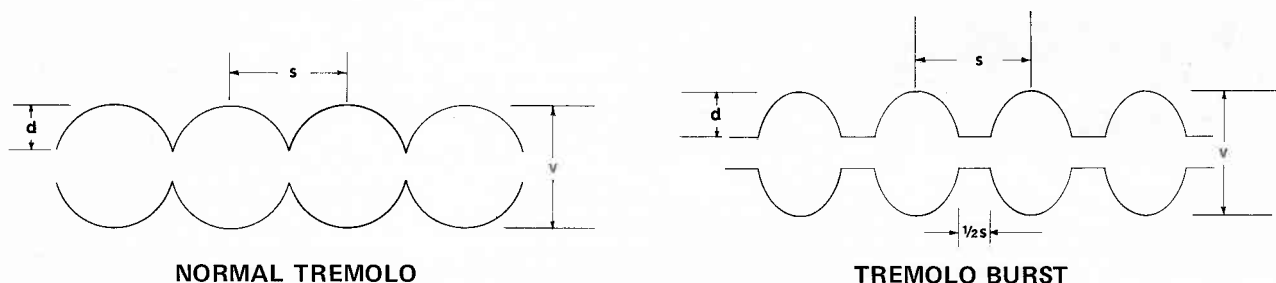

Figure 1. Audio Signal Showing Normal Tremolo and Tremolo Burst Effects.
The tremolo effect can be operated both as normal tremolo and as TREMOLO BURST. In normal tremolo operation, the volume level increases and decreases smoothly at speeds ranging from about 3 to 12 cycles per second as shown in figure 1. TREMOLO BURST, on the other hand, increases and decreases the volume level sharply. The volume level is held down for an extended period in TREMOLO BURST instead of only momentarily (see figure 1), causing an effect similar to that of a tape repeater.
- A. TREMOLO DEPTH CONTROL — The TREMOLO DEPTH control varies tremolo intensity (d in figure 1) in CHANNEL A only. Tremolo effect is turned on by pulling the DEPTH control knob out. Turning the DEPTH control to the right from 0 (clockwise) increases tremolo intensity (volume level can be decreased up to about 80% of VOLUME control setting).
- B. TREMOLO SPEED CONTROL — The TREMOLO SPEED control adjusts the tremolo rate (frequency) in CHANNEL A only (s in figure 1). Turning the SPEED control to the right from 0 (clockwise) increases tremolo speed from 3 to 12 cycles per second. Pulling the SPEED control out operates the TREMOLO BURST effect and is adjusted in the same manner as SPEED. In the TREMOLO BURST effect, the volume is increased and decreased sharply and is held decreased for an extended period (see figure 1). The BURST effect is similar to that of a tape repeater.